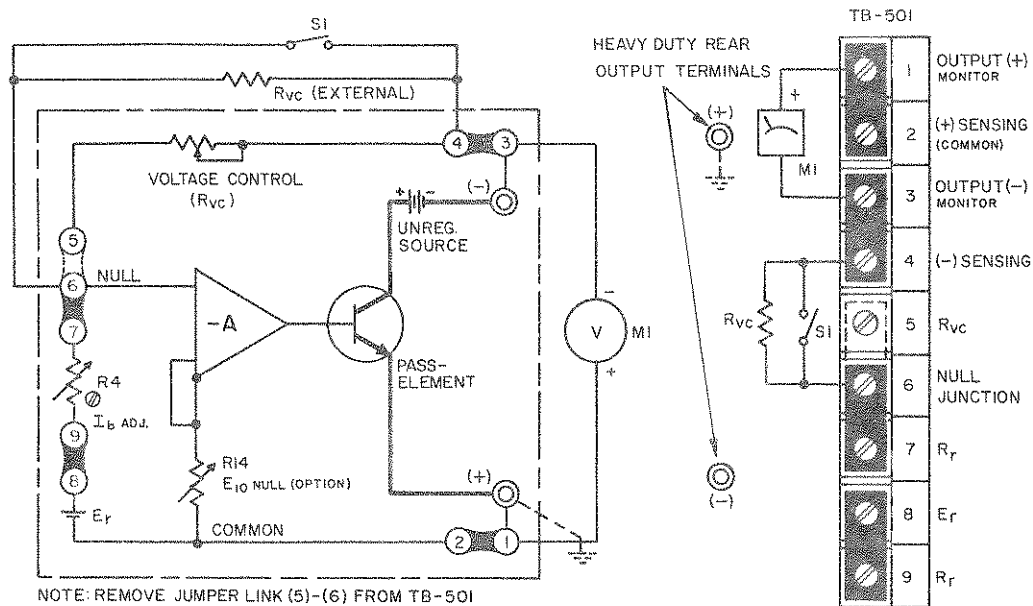

FIG. 3-4 CONNECTIONS FOR PRECISION PROGRAMMING RATIO ADJUSTMENT
- 3-16 PROCEDURE. PRECISION PROGRAMMING RATIO ADJUSTMENT (Refer to FIG. 3-4)
- b) Connect calibration set-up as shown in FIG. 3-4 and connect the power supply to the AC power line.